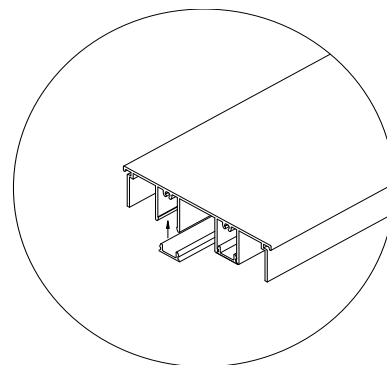

Figure 17
- 15) Next install the main frame head screw covers and P-hook screw covers. (See Figure 17)